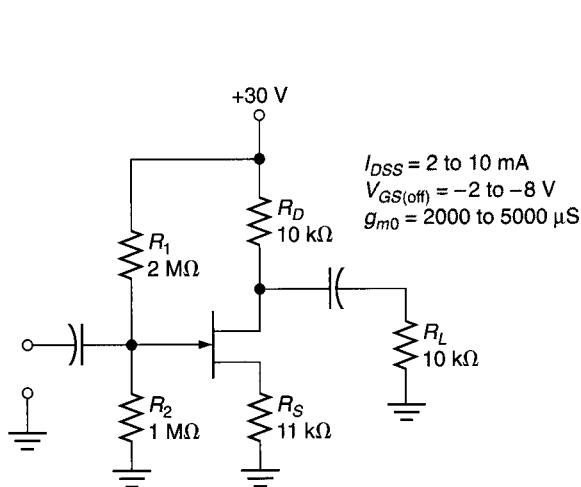

FIGURE 12.60
23. Determine the ranges of  $I_D$  and  $V_{DS}$  for the circuit shown in Figure 12.60.
31. Determine the range of  $A_v$  values for the circuit shown in Figure 12.60.
37. Determine the value of  $Z_{in}$  for the amplifier in Figure 12.60.